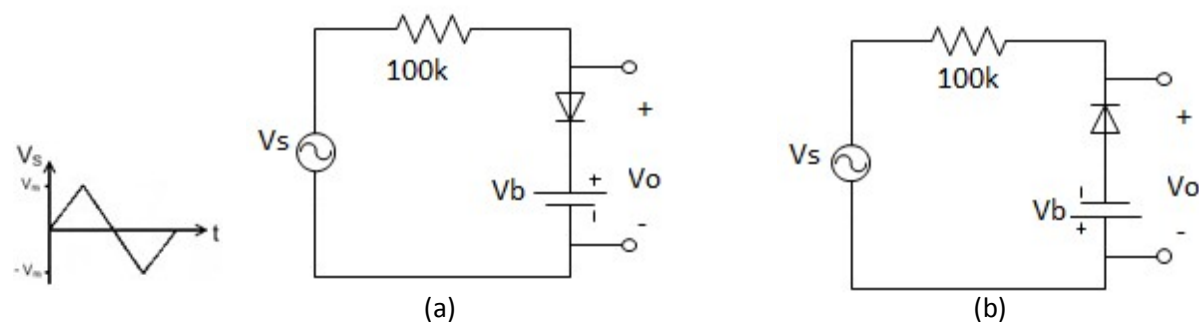
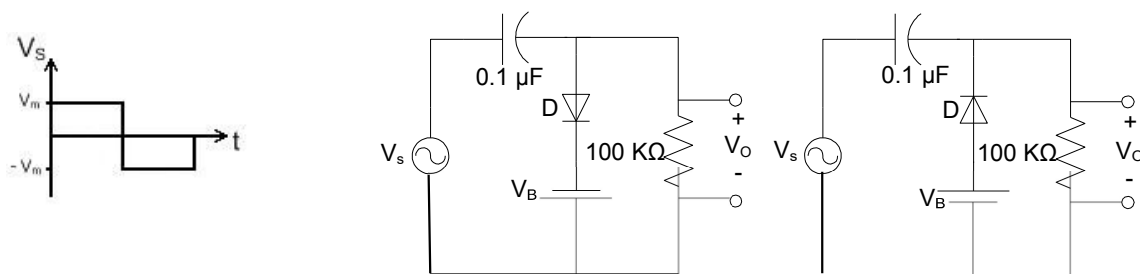

Figure 4.7: Parallel Clipper Circuits
Figure 4.8: Clamper circuit
Input-output Fig 4.7 (a)
Input-output Fig 4.7 (b)
Input-output Fig 4.8 (a)
Input-output Fig 4.8 (b)
2. For Fig 4.6(a &b), Fig4.7 (a & b) and Fig 4.8 (a & b) what change did you observe in the output voltage, In procedure-4? Explain the reason behind such a change.
3. For Fig 4.6(a &b), Fig4.7 (a & b) and Fig 4.8 (a & b) what change did you observe in the output voltage, In procedure-5? Explain the reason behind such a change.